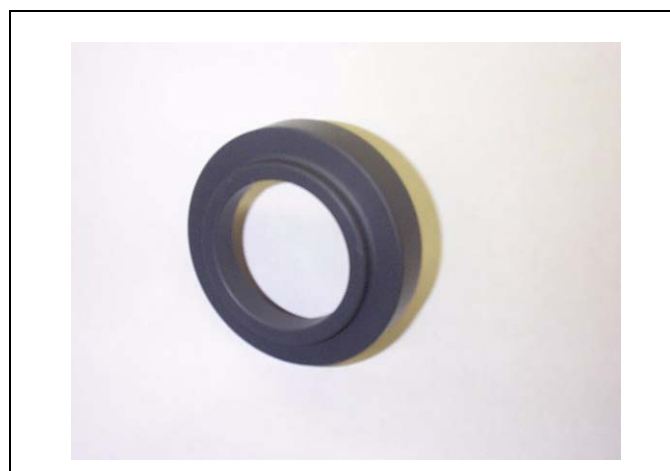

Figure 17-14
2. Use the seal installer (see Figure 17-14) to install the new seals, small (inside) diameter first, then large (outside) diameter.